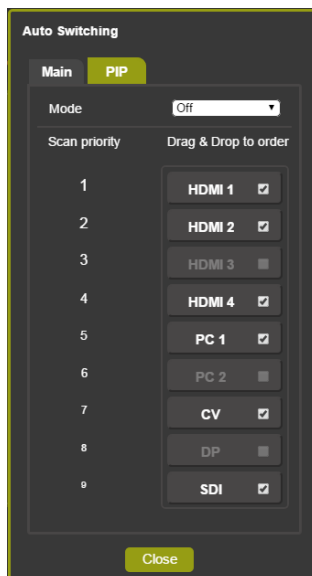
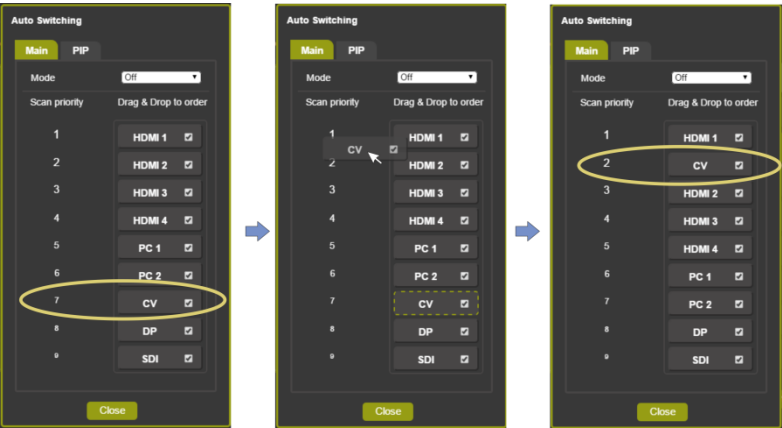

Figure 50: The Routing & Scaling Page – selecting the Inputs to Scan (PiP Tab)
Figure 51: The Routing & Scaling Page – Auto Switching Window
- **Scan** mode to scan through the inputs in search of a valid input signal. In the scan mode you can select which of the inputs will be included in the scan (see Figure 50) and also change the order of the scanned inputs (see Figure 51)
You can change the priority order as well by dragging an input button and dropping it in a new location, as illustrated in the example in Figure 51. In this example, CV is moved up in the priority list to be scanned for a valid input after HDMI 1.